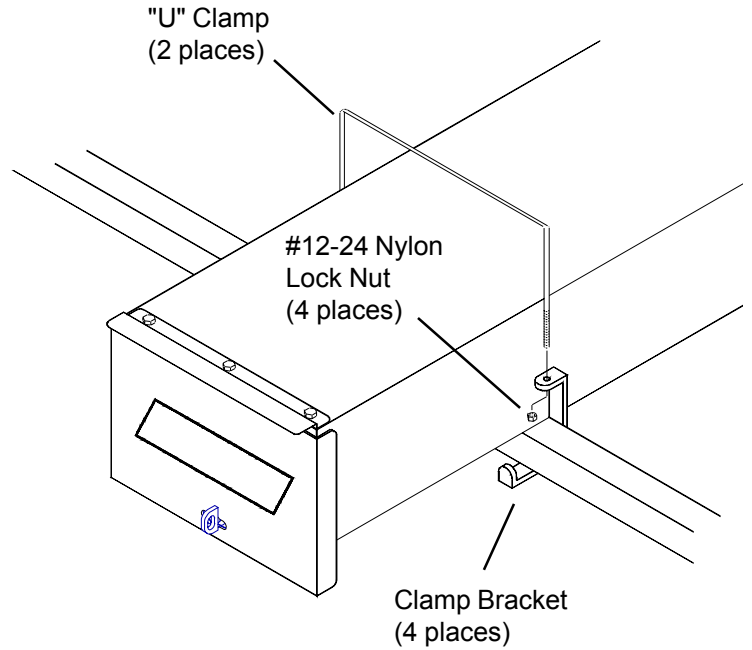
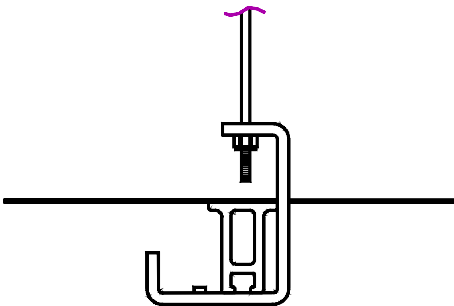

Figure 9. Body to Crossmember Fastening
Figure 10a. Installation on a 211 aluminum crossmember
8. Place the Conduit Carrier in position on the van rack. Install the "U" Clamps and Clamp Brackets (see Figure 9.). (See Figures 10a, 10b or 10c for installation of "U" Clamps and Clamp Brackets for your crossmember).